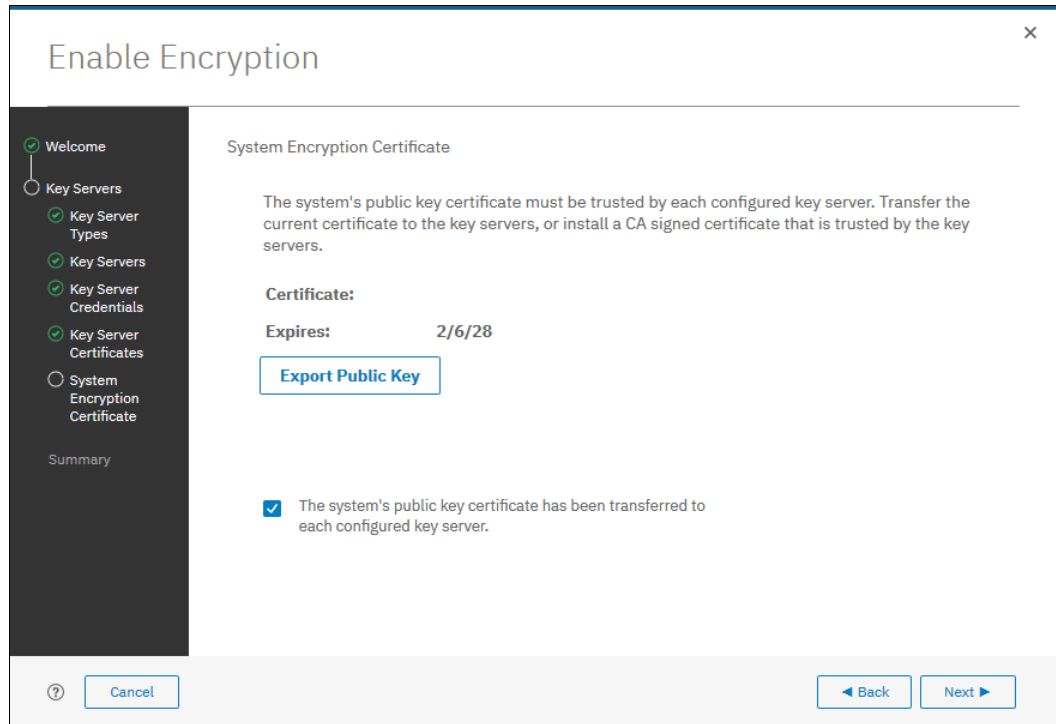

Figure 13-46 Downloading the IBM Spectrum Virtualize SSL certificate
7. Configure the SafeNet KeySecure key servers to trust the public key certificate of the IBM Spectrum Virtualize system. You can download the IBM Spectrum Virtualize system public SSL certificate by clicking **Export Public Key**, as shown in Figure 13-46 on page 763. After adding the public key certificate to the key servers, select the box and then, click **Next**.